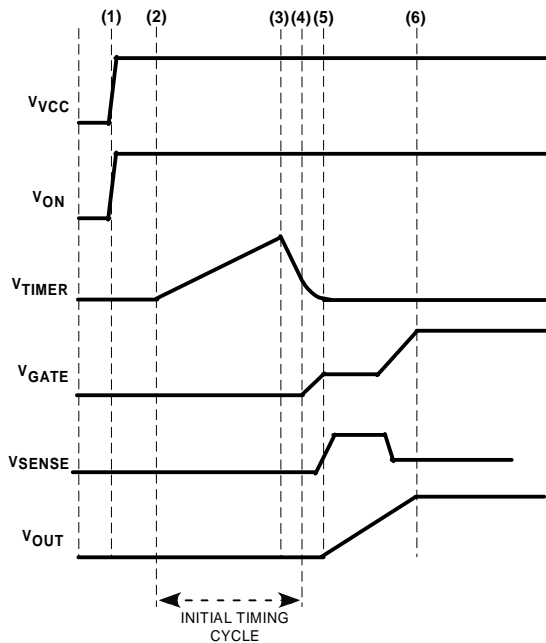
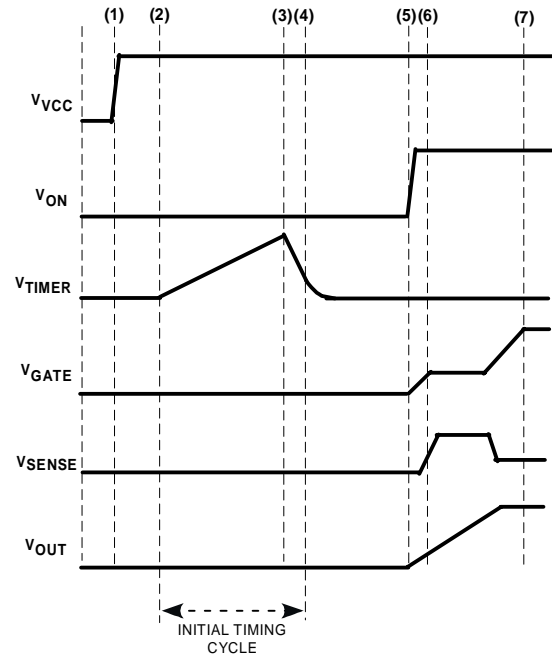

Figure 2. Start-up (ON asserts as power is applied)
Figure 3. Start-up (ON asserts after power is applied)
When VCC is first connected to the backplane supply, there is an internal supply (time-point (1) in Figure 2) in the ADM1176 which needs to charge up. A very short time later (significantly less than 1 ms) the internal supply will be fully up and, since the undervoltage lockout voltage has been exceeded at VCC, the device will come out of reset. During this first short reset period the GATE pin is held down with a 25 mA pulldown current, and the TIMER pin is pulled down with a 100 μA current sink.
When the initial timing cycle terminates, the device is ready to start a hotswap operation (assuming ON pin is asserted). In the example shown in Figure 2, the ON pin was asserted at the same time as VCC was applied, so the hotswap operation starts immediately after time-point (4). At this point the FET gate is charged up with a 12 μA current source. At timepoint (5) the threshold voltage of the FET is reached and the load current begins to flow. The FET is controlled to keep the sense voltage at 100 mV (this corresponds to a maximum load current level defined by the value of R_{SENSE}). At timepoint (6) V_{GATE} and V_{OUT} have reached their full potential and the load current has settled to its nominal level. Figure 3 illustrates the situation where the ON pin is asserted after V_{VCC} is applied.